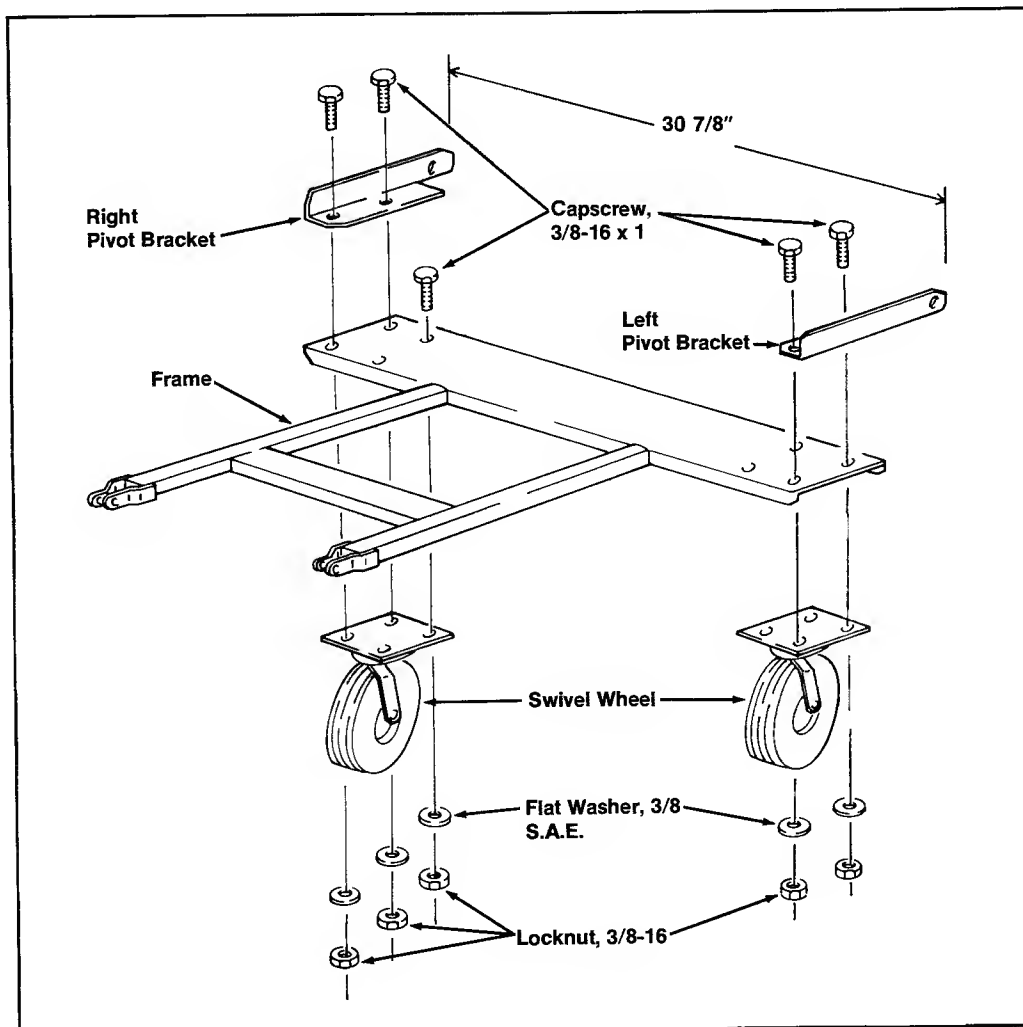

Figure 3
- a. The two pivot brackets (figure 3) are installed on top of the frame with two of the four capscrews that attach the swivel wheel.